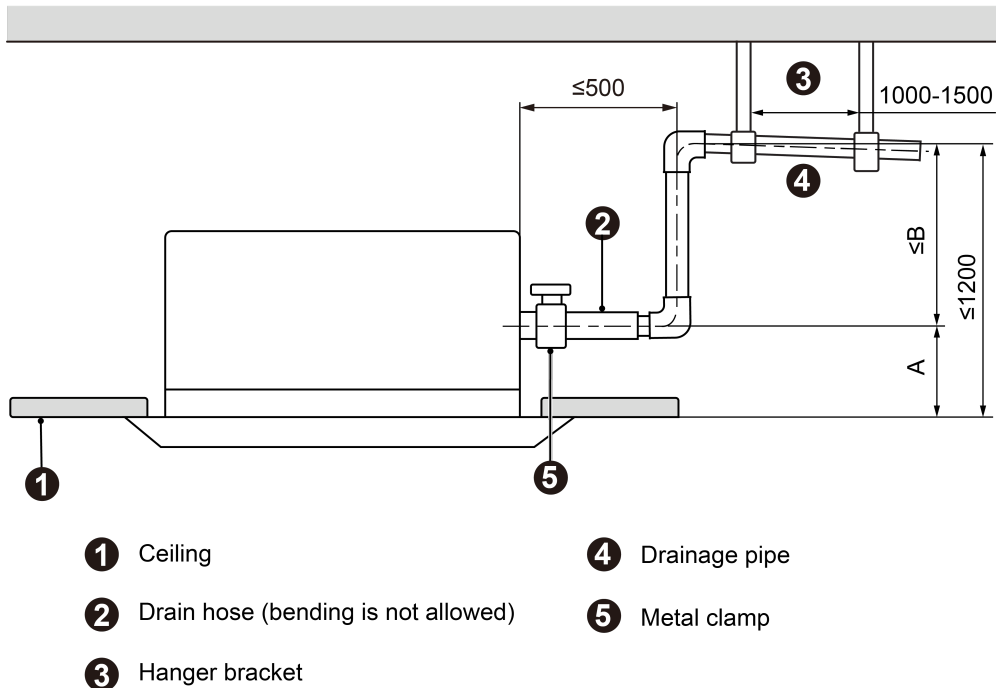

Fig.4.3.7
- (10) The installation height of raising pipe for drainage should be lower than B. The gradient from raising pipe towards drainage direction should be at least 1%~2%. If the raising pipe is vertical with the unit, the raising height should be less than 1030mm, as shown in Fig.4.3.7.